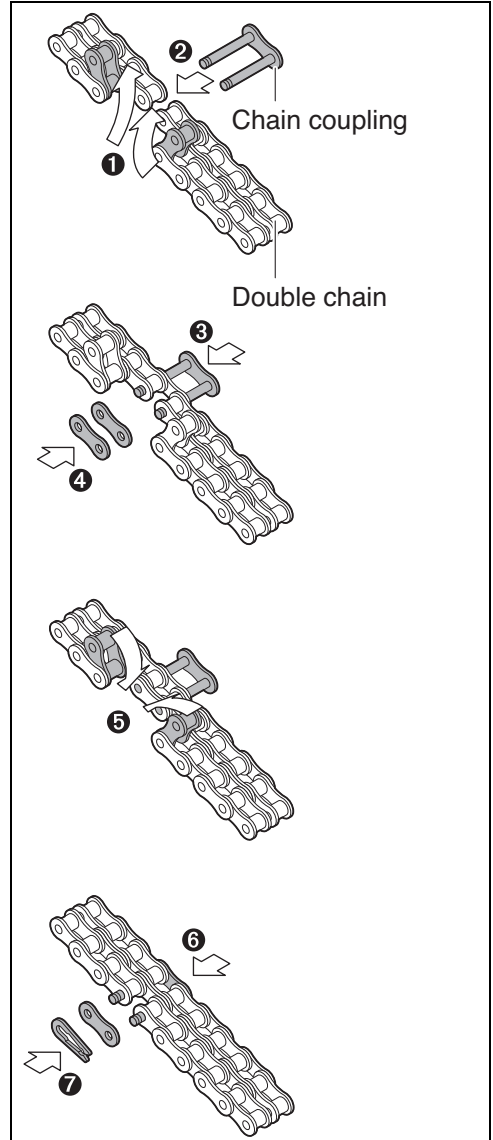

Fig. 9
- ▶ Install the chain as shown in Fig. 9.